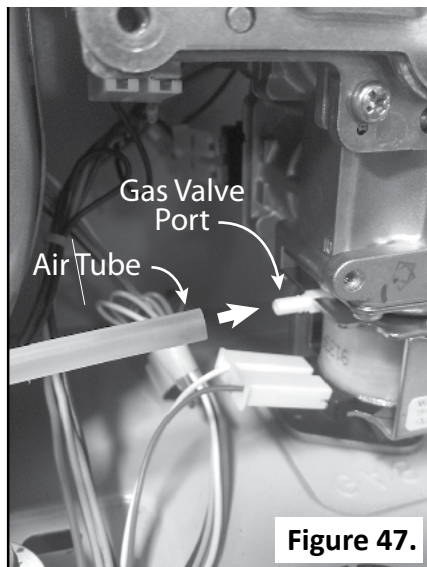

Figure 47.
- 3.7 Attach the clear air tube from the bottom of the combustion chamber to the port on the left side of the gas valve. (See Figure 47.)